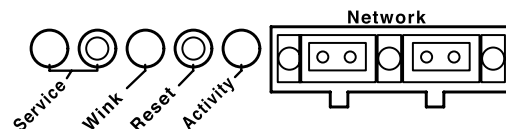

Figure 3.3. The RMS user panel
The RMS user panel has three LEDs and two buttons (Figure 3.3). The following sections describe their functions.
**NOTE:** The LEDs and buttons on the user panel of the RMS communication module shown in Figure 3.3 are used exclusively by RMS, and have no effect on the acoustical and/or electrical activity of the M1D or M1D-Sub itself – unless Mute or Solo are enabled at the module and from the RMS software.